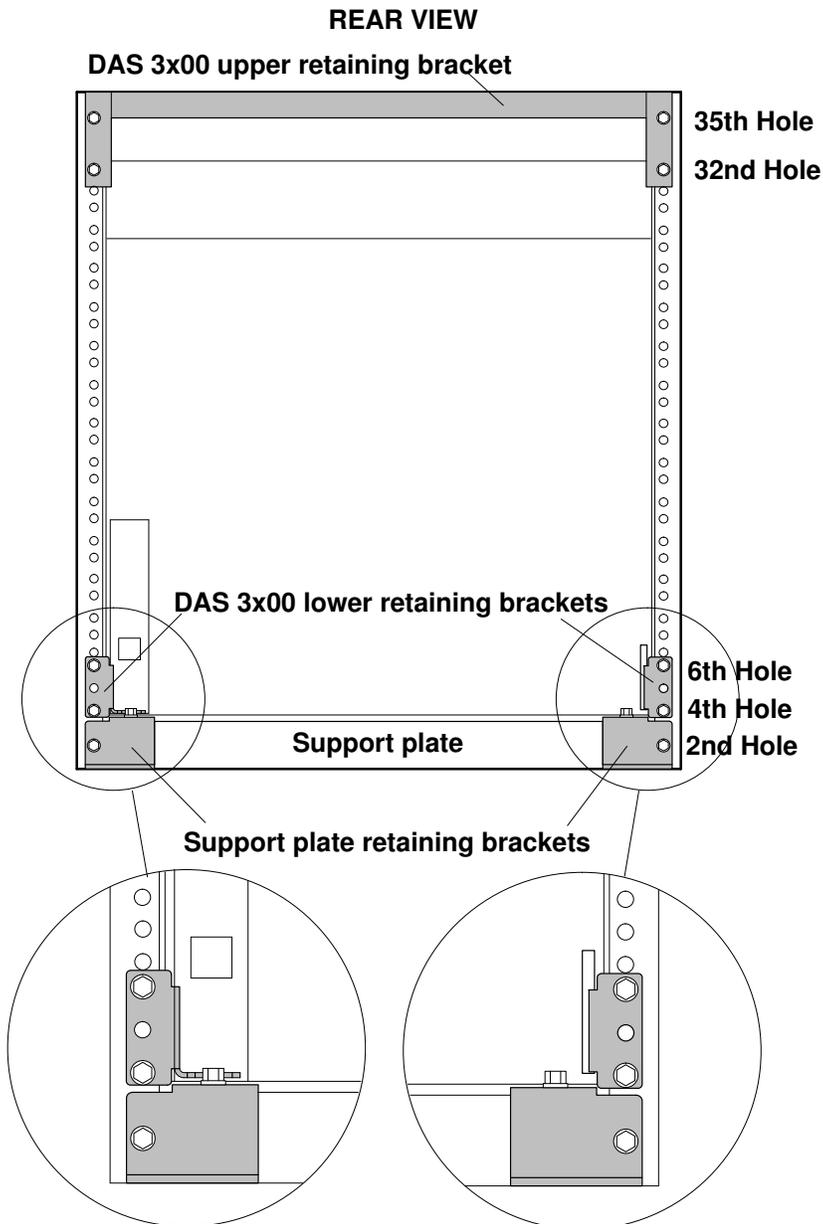

Figure 80. Rear view of the DAS 3x00 and retaining brackets
2. Position and tighten one self-locking screw in the 2nd hole on each side at the front of the rack see figure 80.
4. Position the support plate retaining bracket as shown in figure 80.
2. At the **rear** of the rack, insert two (2) M6 threaded nut clips in holes 32 and 35 on each side as shown in figure 80.
Note: The two DAS 3x00 lower retaining brackets are different. The shape of the DAS at its rear makes it easy to determine which bracket goes where (See figure 80).
- c. For each side of the rack, replace the two (2) screws and tighten. These screws now hold both the rails and the DAS 3x00 lower retaining bracket used to block the DAS drawer at the back of the rack.
- a. Position the DAS 3x00 upper retaining bracket, see figure 80.
- b. Secure the DAS 3x00 upper retaining bracket to the rack with two (2) M6 screws on each side of the rack.